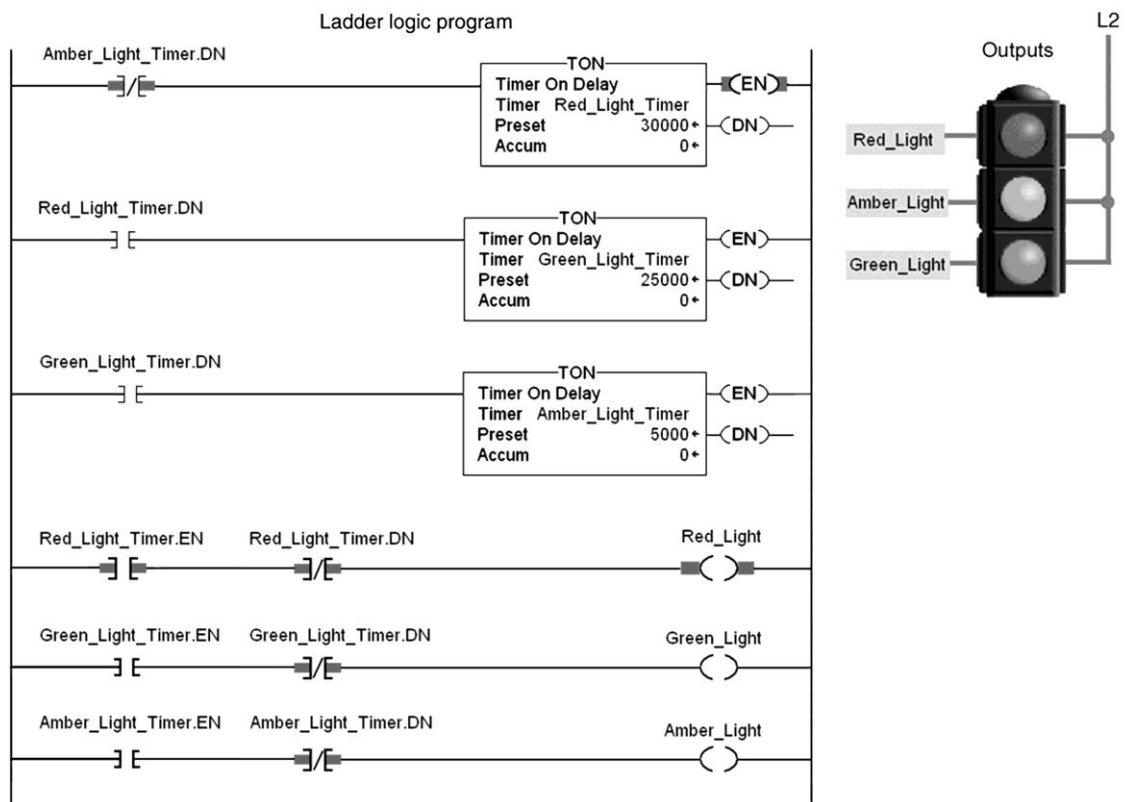

Figure 15-28 Traffic control program for assignment 4.
- 4) The traffic control program of Figure 15-28 is described in the text.